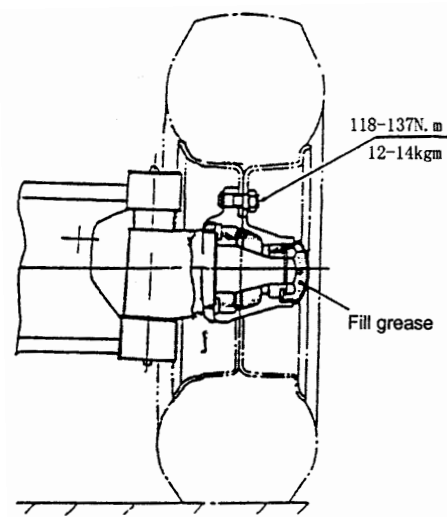

Fig6.5 Pre-load adjustment
(1) As shown in Fig6.5, fill up the chamber formed by wheel hubs, wheel hub bearing and wheel hub covers with lubricating grease. Coat the lips of the oil seals with lubricating grease.
(2) Press the hub bearing into the hub and fit the hub on the knuckle shaft.
(3) Fit a flat washer and tighten a castle nut with torque of 206~235N.m and loosen it and then tighten it again with torque of 9.8N.m.
(4) To ensure firm installation of the hub, slightly knock at it with a wooden hammer and in the meantime, rotate the hub for 3~4 turns.
(5) Tighten the castle nut and align one of its notches with a hole drilled in the steering knuckle.
(6) Again slightly knock at the hub with a wooden hammer and in this time, rotate manually the hub for 3~4 turns to ensure its smooth rotation with a specified torque of 2.94~7.8N.m.
(7) If the torque value necessary to rotate the hub is more than the specified one above-mentioned, screw out the castle nut for 1/6 turn and measure the torque value then.
(8) When the torque value measured is up to the specified one, lock the castle nut with a cotter pin.